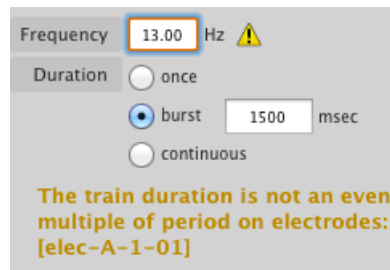

Figure 3-28 Trellis Applications – Stimulation Controller – Burst Duration Warning
a maximum bound will be set for the frequency. Specifically, the frequency cannot be higher than that at which the period equals the sum of the offset and pulse duration. If using a burst of stimulation (see Duration parameter on the following page), and the duration of the stimulation train is not an integer multiple of the stimulation period (1/frequency), a warning will be displayed next to the Frequency parameter as shown in Figure 3-28, and the train will have an empty partial period at the end of the pattern, noted by a red box in the Train Display. The warning text can be refreshed by clicking on the warning symbol .
- burst – multiple pulses will be delivered at a selected frequency for a set amount of time. The maximum allowable time for a pattern is 1 hr. If the duration of the stimulation train is not an integer multiple of the stimulation period (1/frequency), a warning will be displayed next to the Frequency parameter as shown in Figure 3-28 below, and the train will have an empty partial period at the end of the pattern, noted by a red box in the Train Display. The warning text can be refreshed by clicking on the warning symbol